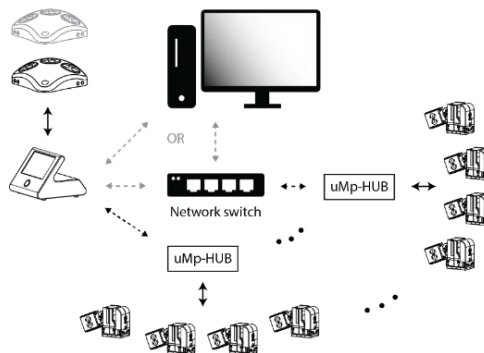

Figure 10. uMp micromanipulation system connections.
uMp micromanipulation system connection scheme is shown in Figure 10. Follow steps below to connect and power ON the products:
2. Push uMp-MBS against the side and back stoppers of the SLF (Figure 10, left), and secure it in place with two M6 mounting screws using the 4 mm hex key (Figure 10, center). Ensure that the uMp-MBS stays against the stoppers during the screw tightening to ensure proper alignment.